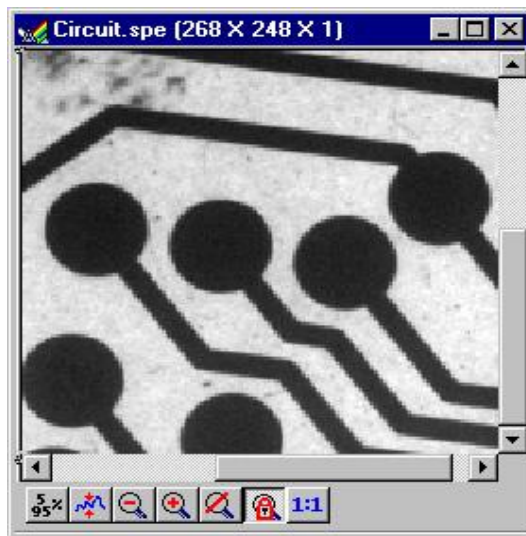

Figure 99. *Circuit.spe* Expanded to show Defined Region
2. Click on the  (Zoom In) button. The view will change so that only the selected region is displayed as shown in Figure 99.